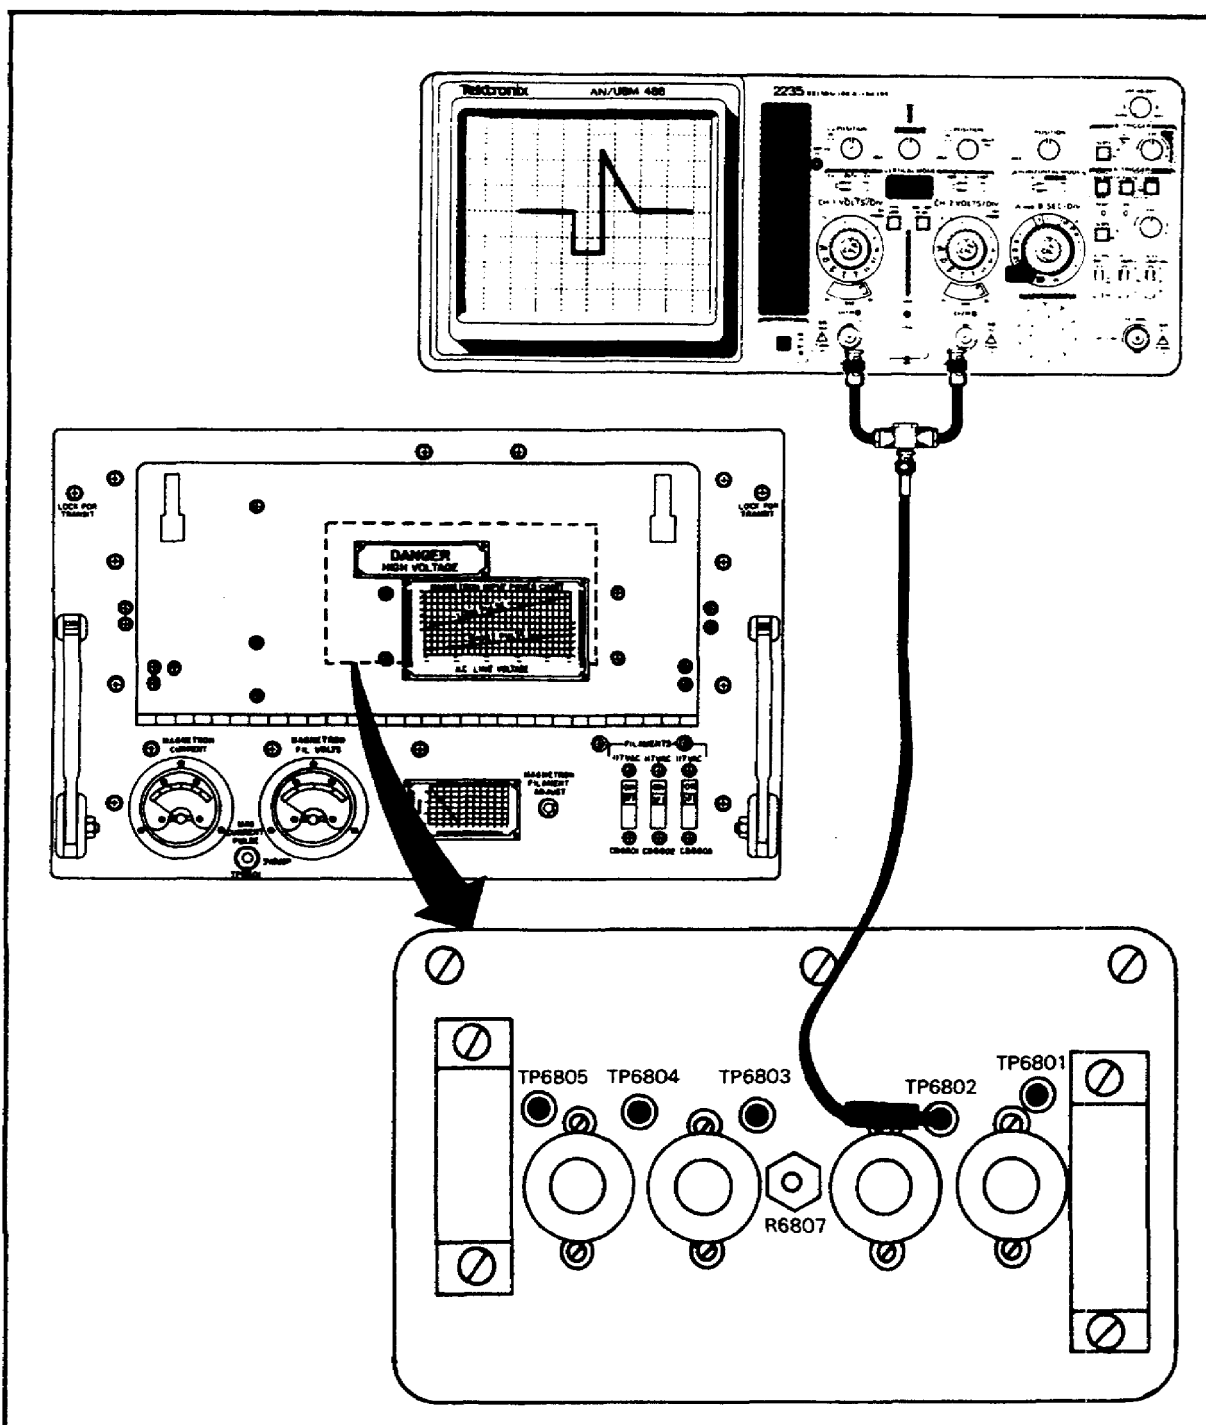

Figure 50. Oscilloscope to TP-6802.
i. Connect the oscilloscope from the vertical input jack on the oscilloscope to the delay gate test point TP-6802 on the pulse delay oscillator O-1284/FPN and observe the delay gate. (See Figure 50.)
s. Connect the vertical input jack of the oscilloscope to the delay gate test point TP-6802 on the pulse delay oscillator 0-1284/FPN and observe the delay gate. (See Figure 50.)